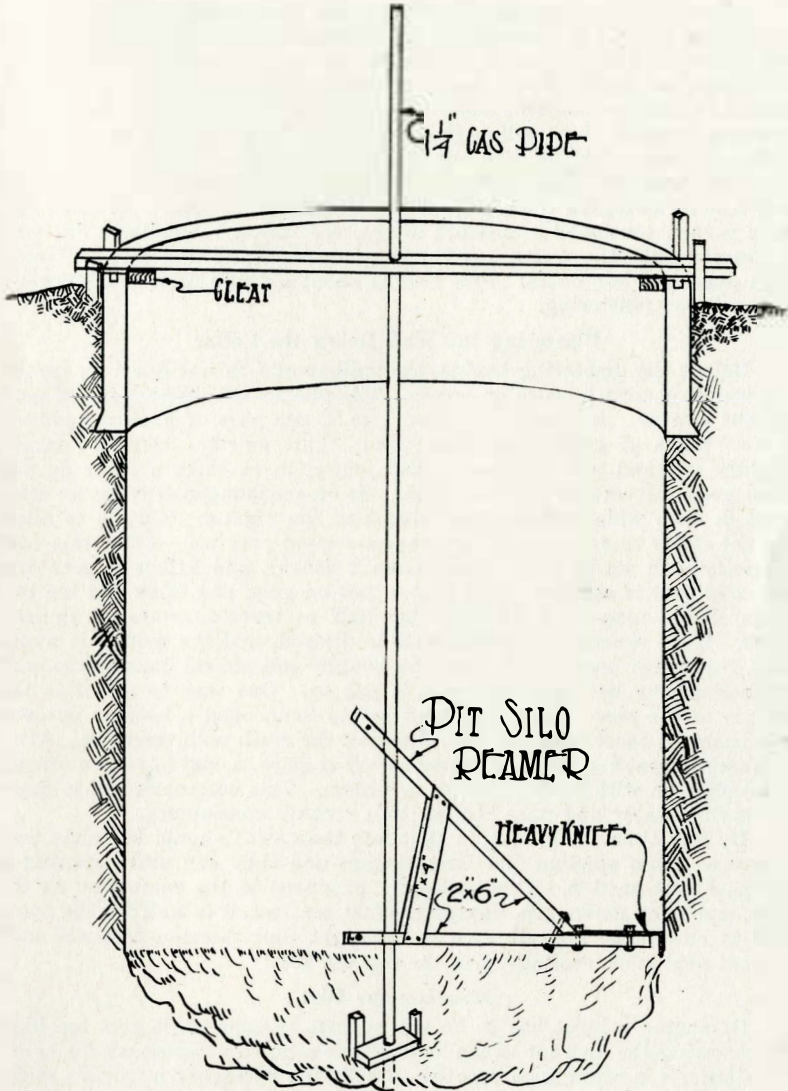

Fig. 4.—REAMER FOR SMOOTHING AND TRUEING THE WALLS
5. Set up the reamer and dig 5 feet below the bottom of the collar. (See Figure 4).
After the collar has set-up safely, the excavating can begin. The first thing to do is to sharpen the spades and shovels. The dirt is spaded out inside the collar first. It is thrown out over the collar (lower section only) and far enough away that it can be picked up in a slip-scraper and hauled to nearby locations that need grading. After the bottom of the collar is reached, the spading should continue to a depth of two or three feet and care should be used not to spade too far out at the sides. The reamer is then set up as shown in Fig. 4 and the sides cut down straight and true by swinging the sweep and knife around the gas pipe. The digging is then continued to a depth of five feet below the collar. The wall is dressed with the reamer as the digging continues and this section is then plastered two coats. Five feet is about as high as it is convenient to reach for plastering.
As already indicated, it is important to use a reamer in digging the pit silo. It is easily made, as shown in Fig. 4. The sweep is made of 2 by 6 lumber. The holes are bored with a large bit or an extension-bit for the gas pipe, and the knife is well bolted to the sweep. The knife may be made of an old wagon tire. A piece of tire 12 to 14 inches long is used. About 2 inches at one end is bent over at a right angle and hammered to a cutting edge on one side. It is then bolted onto the sweep.